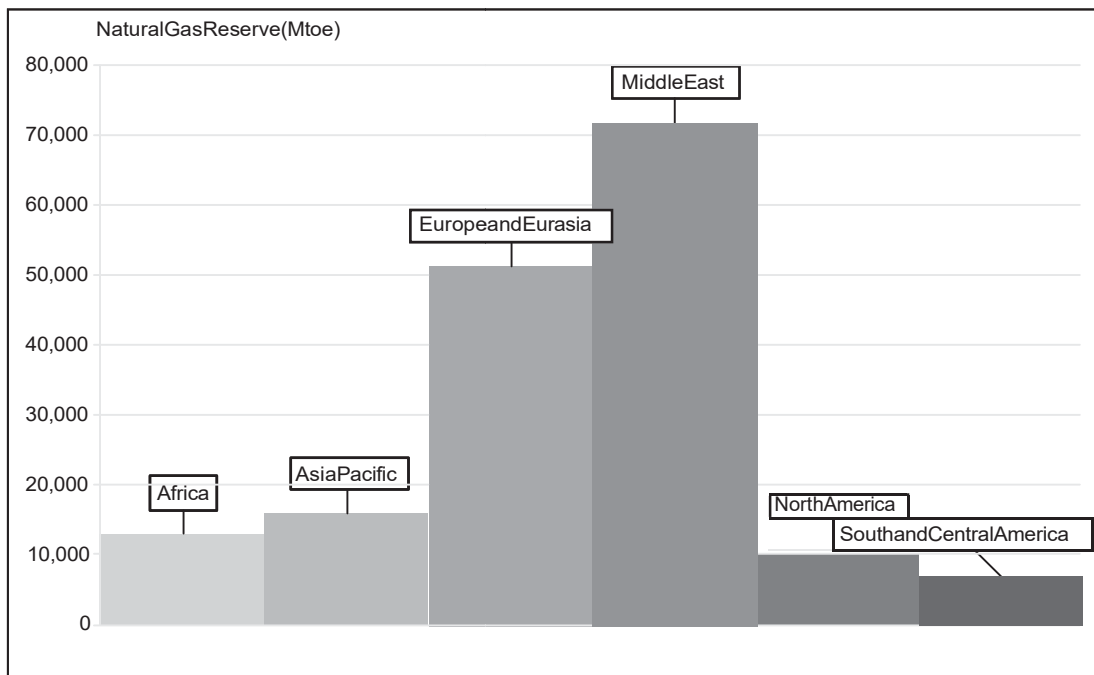

Fig. 1.5.2
- Fig.1.5.2 shows an interactive graph showing what regions have major natural gas reserves.